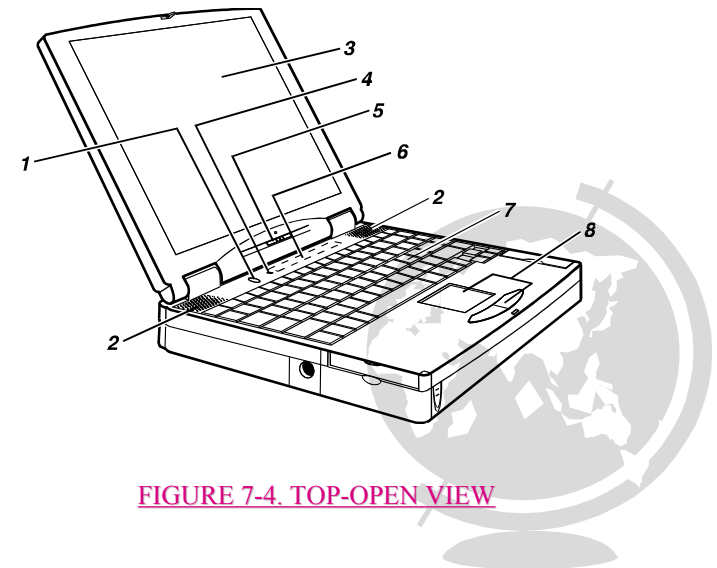

FIGURE 7-4. TOP-OPEN VIEW
7.1.4 TOP-OPEN VIEW (FIGURE 7-4)